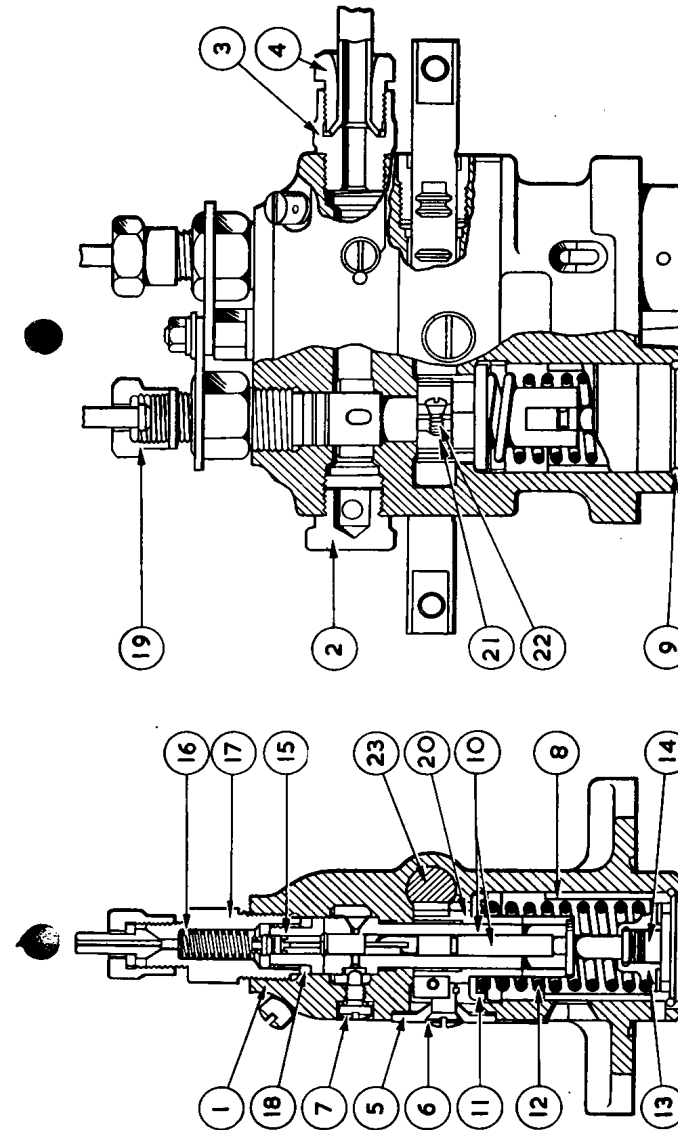

Fig. 12. C.A.V. fuel injection pump Type BPF sectioned to show internal construction
3. Insert from below regulating sleeve 20 (fig. 12) with toothed quadrant 21 and make it mesh with regulating rod in such a way that the centre punch marks B (Fig. 13) and the clamp cheeks of the quadrant are pointing towards the front. Timing marks on multi-cylinder pumps must coincide.
The first move when the pumps are suspected should be to uncouple the piping between the pump and the nozzles. If the engine is then rotated with the pump control rod set at full load position, it will be readily seen if the pump is delivering fuel or not. Observe each discharge outlet on the pump to see if all the pump elements are in order. In the following table the word "Pump" applies either to the pump unit block as a whole or to individual elements, and the part numbers referred to are shown and named on fig. 12.